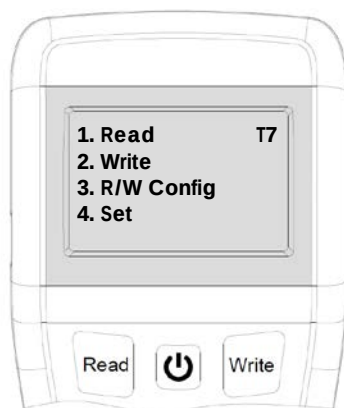

Figure 12
1. Switch-on the programmer, then press button “**4**” to enter to **Setting** mode (Figure 12).